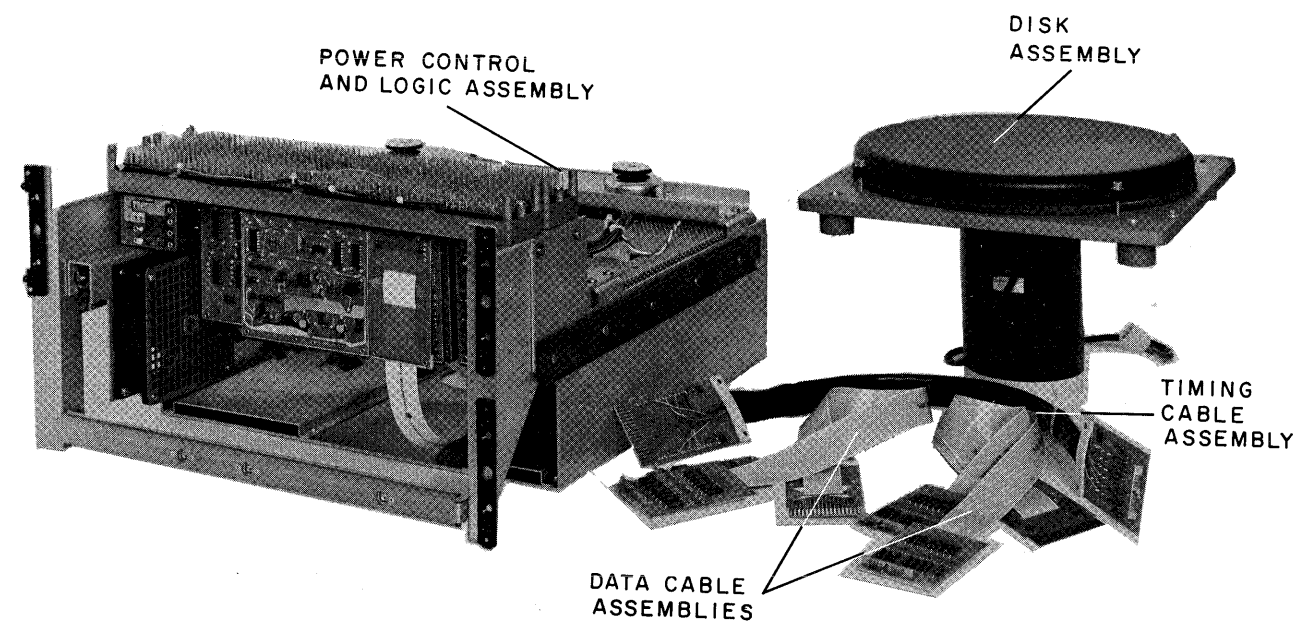

Figure 1-2 RS64 Disk File Major Assemblies
The disk assembly, Figure 1-2, consists of a 10-in. diameter nickel-cobalt plated aluminum disk, a drive motor, and five head assemblies mounted on a deck plate. The deck plate is supported by four shock mounts. A cover protects the disk and heads from dust and foreign particles. Data connections are made via connectors on the underside of the deck plate. A 4-wire power cord connects the drive motor to the RS64P power control and logic assembly.
**1.3.3.5 Data and Timing Cable Assemblies** – Two flat Mylar data cable assemblies (Figure 1-2) interconnect the data track heads with the read/write logic. Each data cable assembly handles the signals for two head shoe assemblies; it has two 8-track matrix-connector modules at the head end. One timing matrix cable assembly (Figure 1-2) interconnects the timing heads with the read/write logic. This cable has a 6-track matrix module at the disk end and a connector module at the logic end.